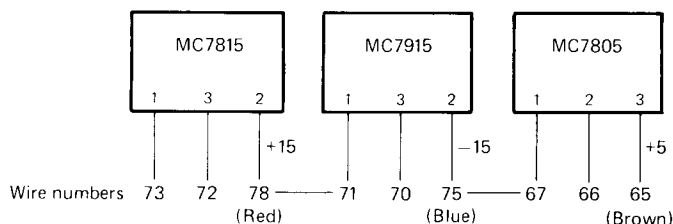

Fig. 7 — Connections for Motorola solid-state regulators.
- Install an MC7815 in place of Q1, an MC7915 in place of Q2, and an MC7805 in place of Q3. (These units are located on the rear panel.) The MC7815 and MC7805 are bolted directly to the chassis but MC7915 must be insulated (use insulating hardware that was used with Q2). Use plenty of thermal compound. Wire the new transistors as shown in fig. 7.